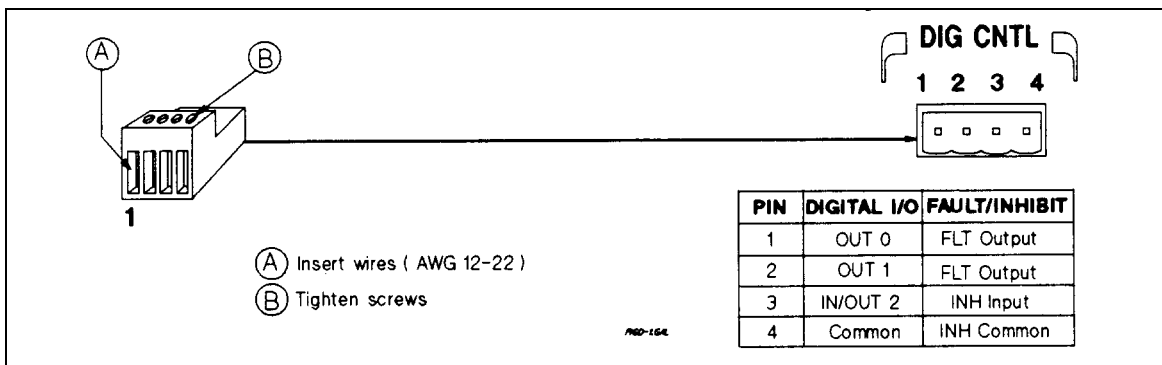
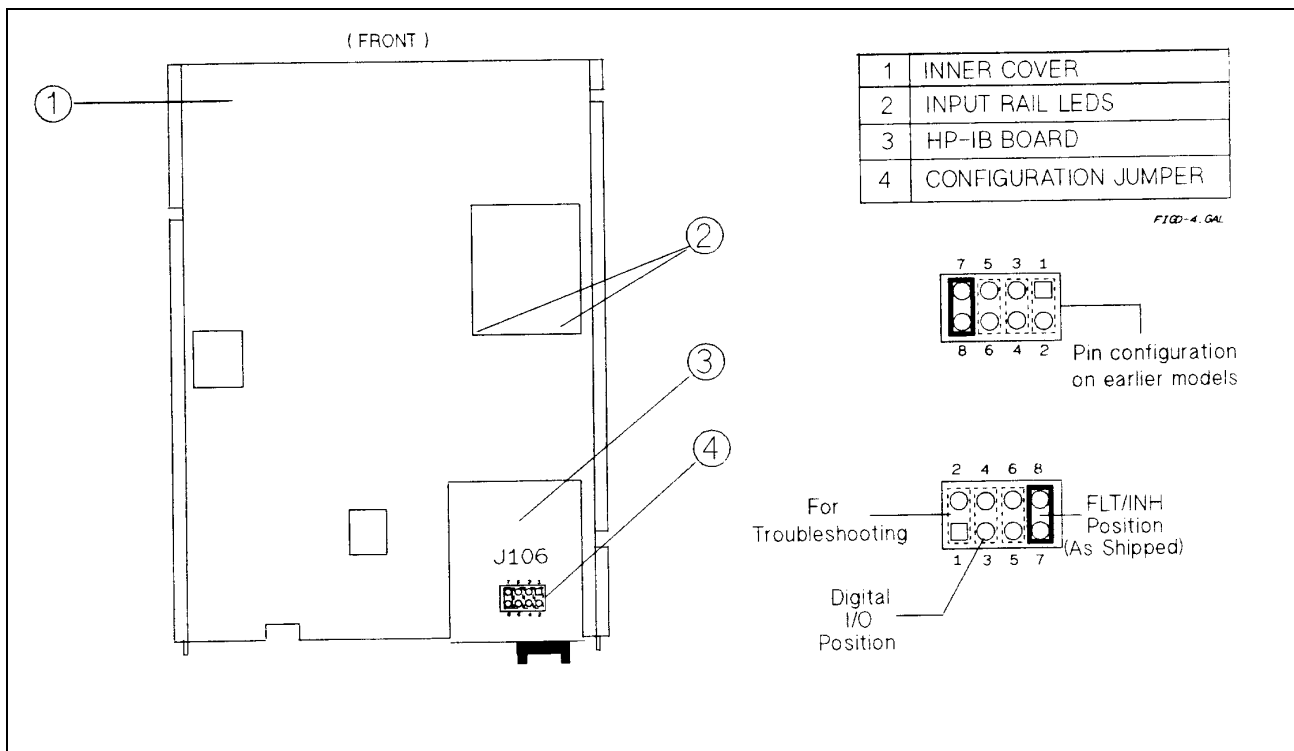
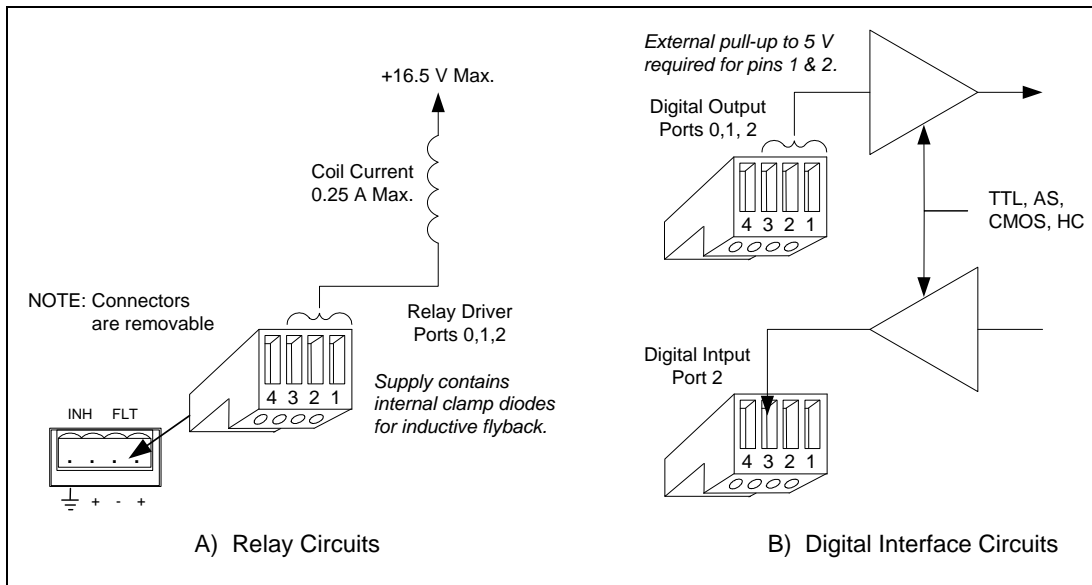

Figure F-1. Digital Port Connector
Figure F-4. Digital Port Configuration Jumper
Figure F-5. Digital I/O Port Applications
A 4-pin connector and a quick-disconnect mating plug are provided for digital input and output signals (see Figure F-1 for wiring connections, and Table A-2 for electrical characteristics). This digital port can be configured to provide either Fault/Inhibit or Digital I/O functions.
As shipped from the factory, the digital port is configured for FLT/INH operation. You can change the configuration of the port to operate as a general-purpose digital input/output port to control your custom circuitry as shown in Figure F-4. To change the port configuration, you must move a jumper on the GPIB board.
5. Refer to Figure F-4 and use needle-nose pliers to move the jumper to the Digital I/O position.
The digital port can be configured (see Figure F-4) to provide a digital input/output to be used with custom digital interface circuits or relay circuits. Some examples are shown Figure F-5. See Figure F-1 for the pin assignments of the mating plug and Appendix A for the electrical characteristics of the port. See **DIG:DATA[:VAL]** in "Chapter 7 - Language Dictionary" for information on programming the port. The digital port pins are as follows:
The digital port can be configured to provide relay control outputs for the Keysight 59510A or 59511A Relay Accessory. Refer to Figure F-1 for the pin assignments of the mating plug.